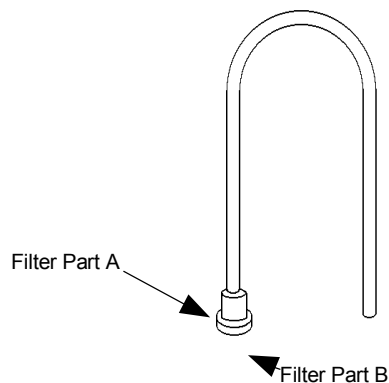

Figure 5-23. Diluent Suction Tubing Filter
1. Unscrew the larger part (filter part B) of the Filter Holder from the smaller part (filter part A). Refer to Figure 5-23.
3. Figure 5-23. Diluent Suction Tubing Filter. Place the new filter flat in the large piece of the Filter Holder.